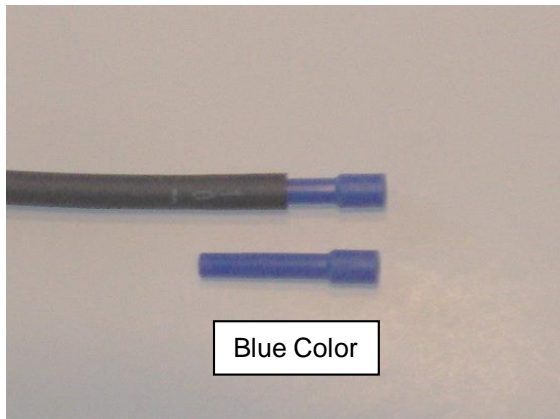

Figure 4
5.4 Tube Plug (DE55MP) Use a blue-colored DE55MP Tube Plug to seal an empty 8mm OD / 5.5mm ID TP2 plenum-rated tube in indoor applications only. The stem of the blue Tube Plug is 6.00mm OD. Use finger-pressure only and insert Tube Plug until it is firmly seated inside the tube. Do not “jam” Tube Plug into tube or it will be difficult to remove later. The DE06MP Tube Plug is not a push-fit device and can be blown out of the tube if pressure is inadvertently applied. Exercise caution. **See Fig. 4.**